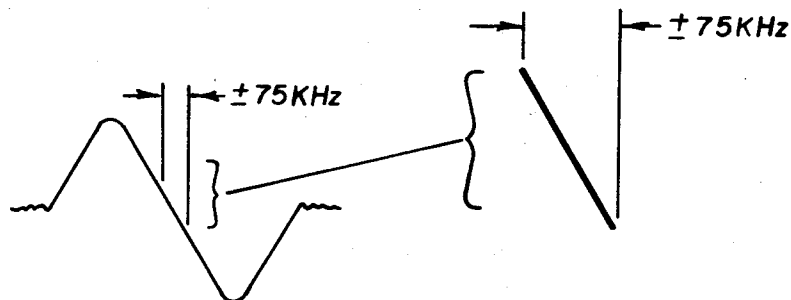

Figure 4
5. To align the FM Detector, with the FM generator connected as in Step 1, move the oscilloscope to the record output jack on rear panel. Reduce the modulation to ± 75 KHz and connect a DC VTVM to the detector output (4-channel adapter jack). Adjust the top core of the detector transformer (T9) for a zero indication on the DC VTVM and the bottom core of the detector transformer for maximum gain and linearity (see Figure 4).